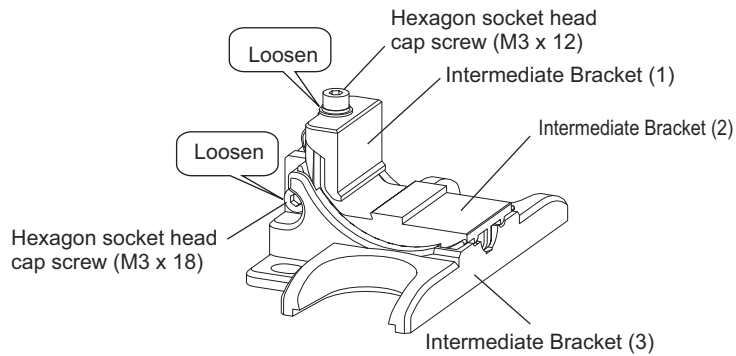

Figure 24
1. Loosen the hexagon socket head cap screw (M3 x 18) of the intermediate bracket (3) and the hexagon socket head cap screw (M3 x 12) of the intermediate bracket (1) to be able to attach the bracket to the sensor case. (Figure 24 and 25)